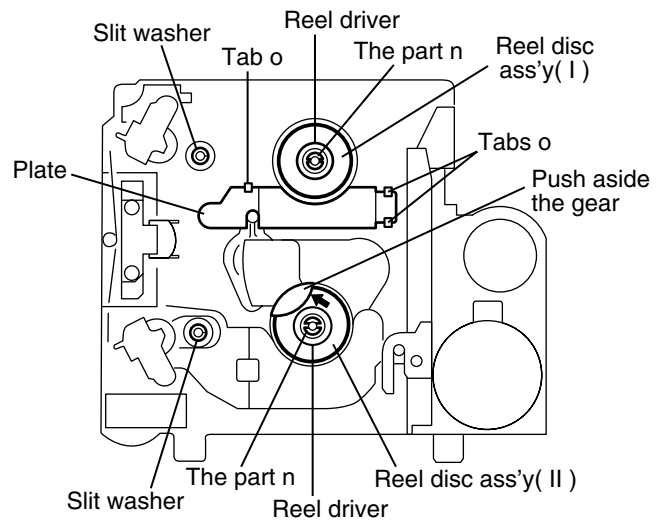

Fig.12
(See Fig.12 to 14)
**(See Fig.12 to 15)**